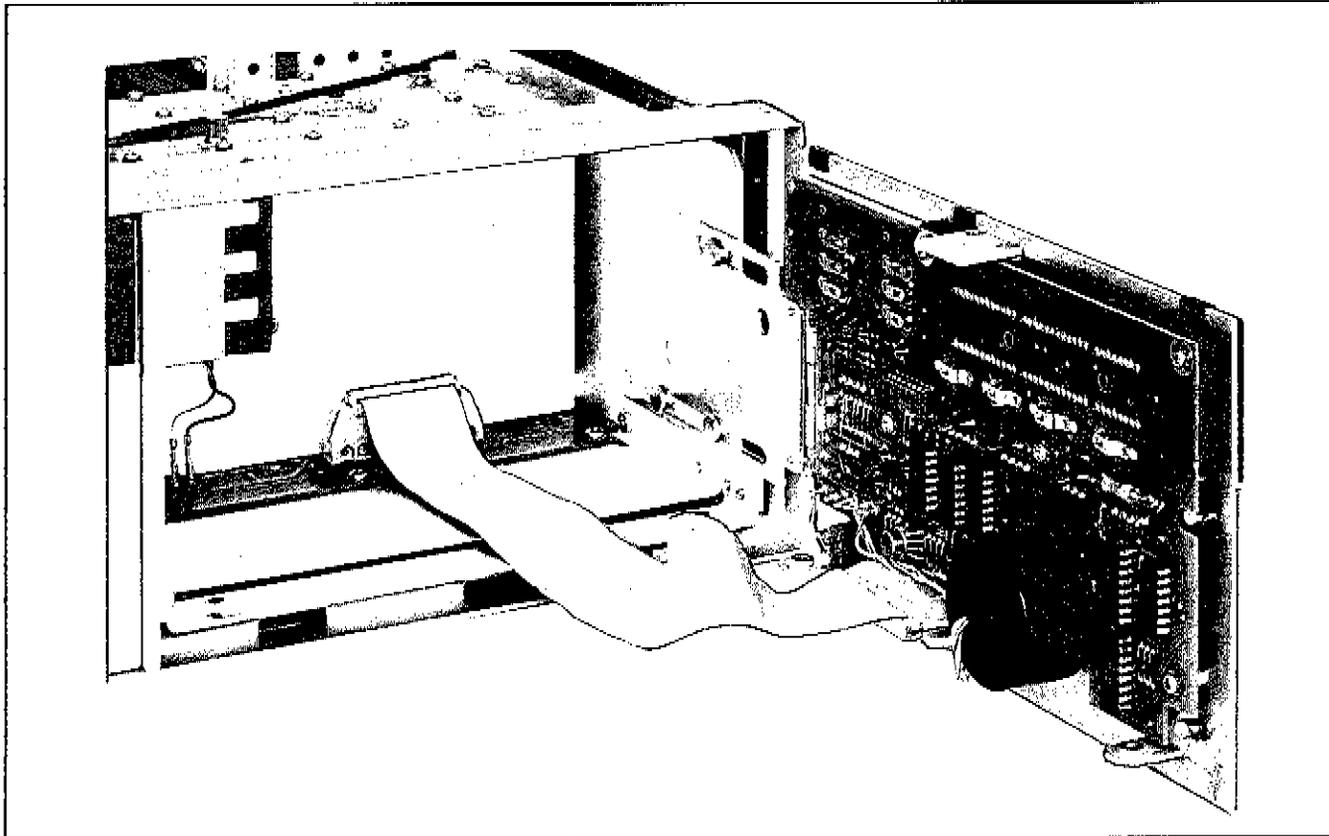

Figure 8-3. A2 Assembly Front Panel Fully Extended
- h. Carefully, pull the front panel outward to clear the front frame (see Figure 8-3).